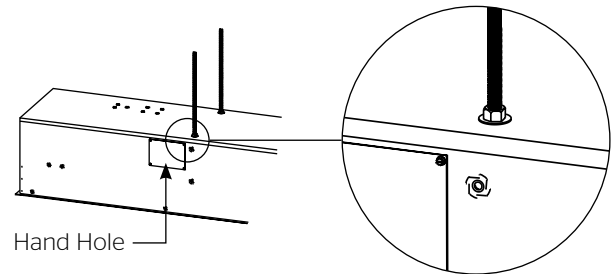
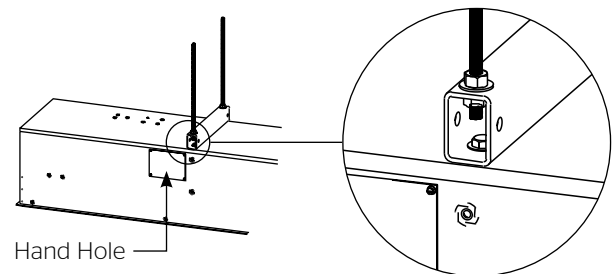
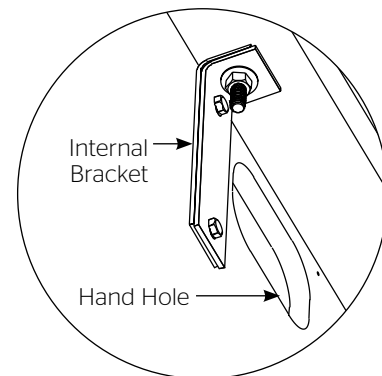

Figure 1a - Threaded Rod with Internal Bracket
Figure 1b - Threaded Rod with Internal and External Bracket
Figure 1c - Internal Bracket
1. The case brackets provide multiple attachment points for bolts, cables, or threaded rod. The following page shows two locations for typical threaded rod installations with the external case mounting brackets (Figure 1a) and without them (Figure 1b). The internal case brackets can be accessed through the hand holes (Figure 1c).